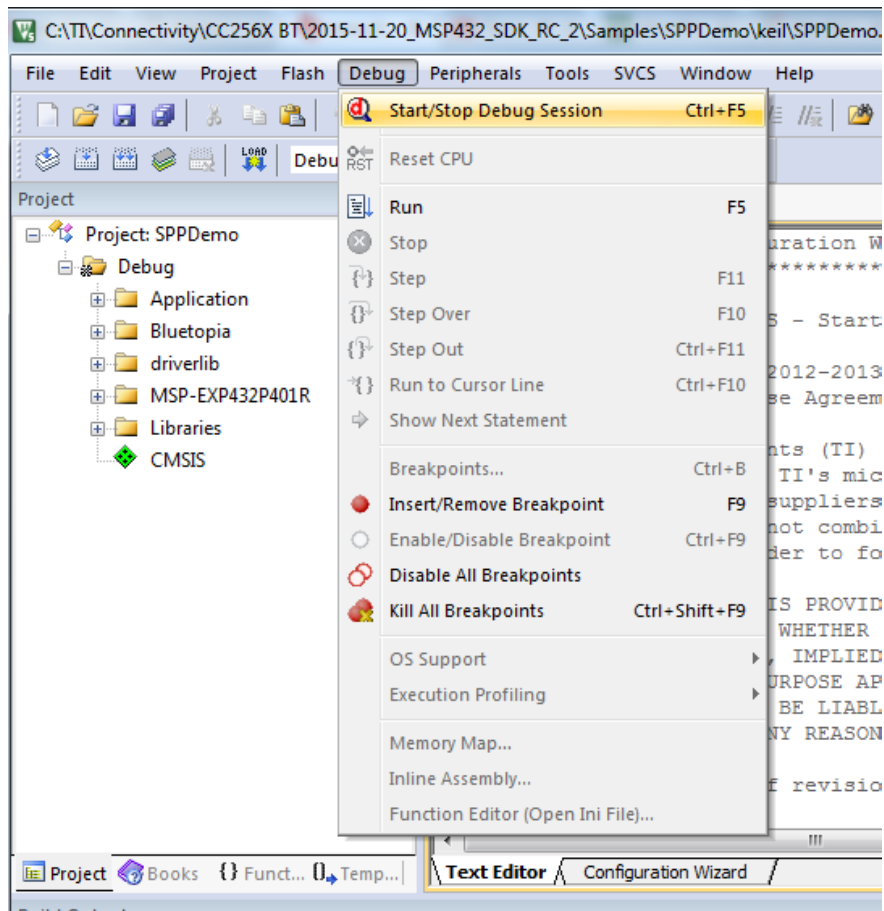

Figure 16. Start/Stop Debug Session
- (a) Select *Start/Stop Debug Session* to start loading the profile on the MSP432 device (see Figure 16).